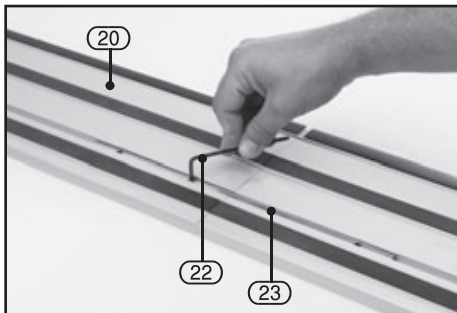

FIG.4
8.2 CONNECTING THE RAIL – FIG.4
- The rail (20) is used to make straight cuts. To connect the two rails, slide the fastener into the notch on the guide tracks. Tighten the set screws (23) with the included hex key (22).